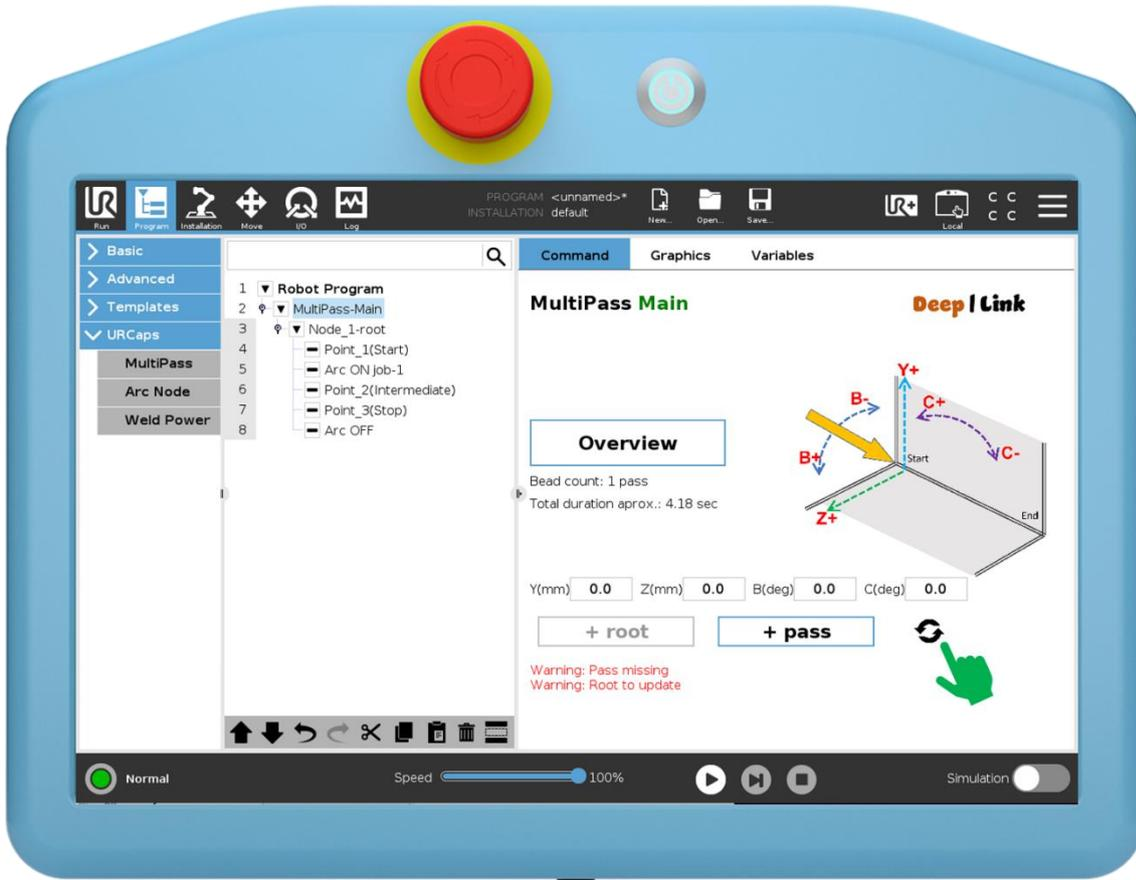

Figure 25 Clear error when updating Multipass root path.
**Multipass root path is possible to update, after changing waypoint or change Motion parameter on Pass Node (root), you need to go to MultiPass-Main node to clear misalignment errors by clicking the update icon, refers to Figure 25.**